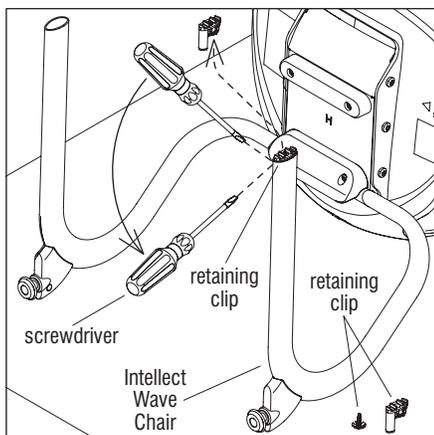

Figure 5
4. After the glide is removed, some material such as the round, steel retaining clips may remain inside. Use a screwdriver to pry out all remaining material. The bottom right corner of figure 5 shows the components that come out of the drilled-out toe glide.